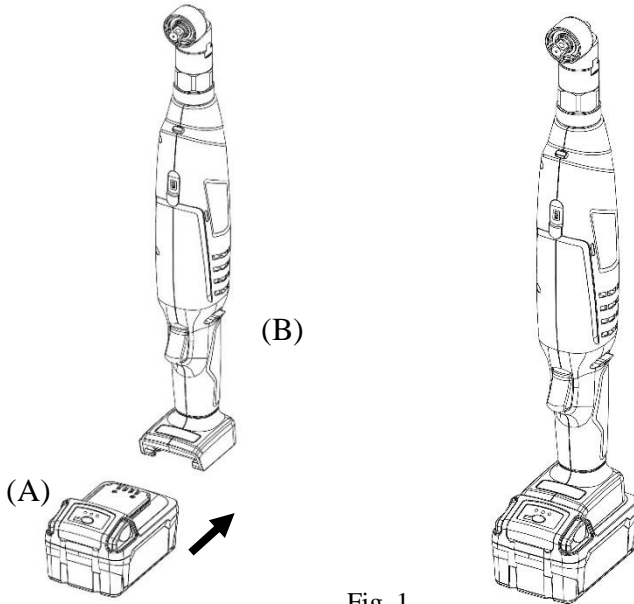

Fig. 1
TO INSTALL BATTERY PACK: Push battery pack (A) onto tool (B) until it locks in place (see Fig. 1).
TO REMOVE BATTERY PACK: Depress the two side release buttons on battery pack and pull battery pack (A) off of the tool (B) (see Fig.1).